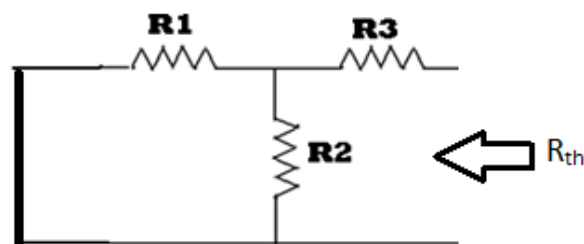

Figure 2. Circuit Diagram (2)
**3. Experimental Set Up****Figure 1. Experimental setup for series RLC circuit****Figure 2. Experimental setup for Parallel RLC circuit****4. Experimental Procedure****For R-L-C- Series**
**3. Experimental Set Up****Figure 1. Three phase system with star connected load****Figure 2. Three phase system with delta connected load**